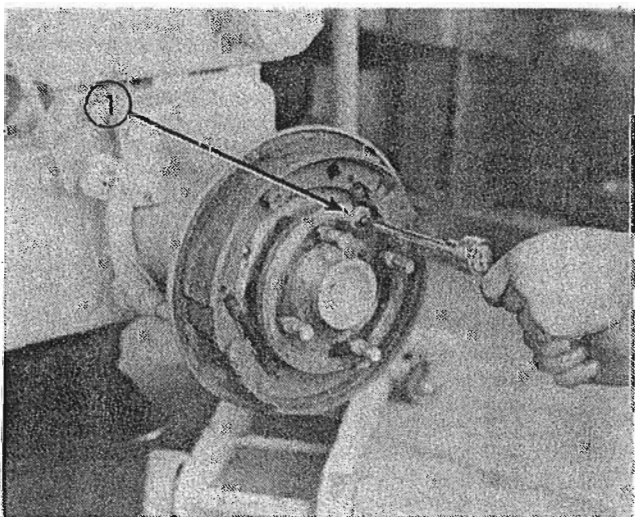

FIG. 9
Remove (6) 10 x 25 mm. hex bolts through access hole in axle flange. (1, Fig. 9)